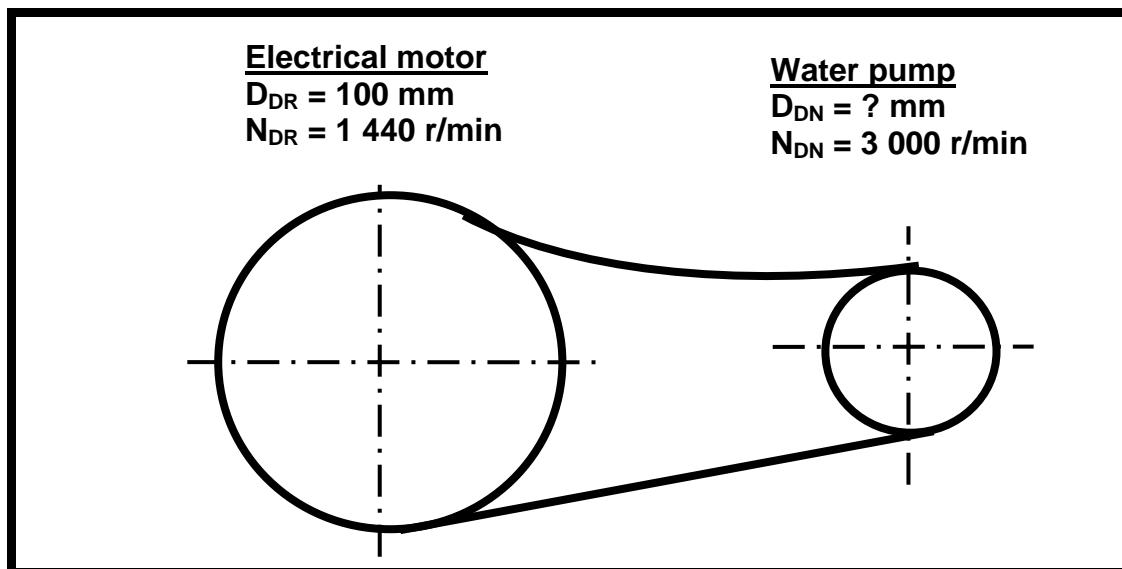

FIGURE 2.2
- 2.3 Study FIGURE 2.2. Lucas is the engineer who has to design a belt drive system for a water pump. The main shaft of the pump rotates at 3 000 r/min while the rotation frequency of the 100 mm pulley on the electrical motor is 1 440 r/min. Calculate the diameter of the pulley on the pump.